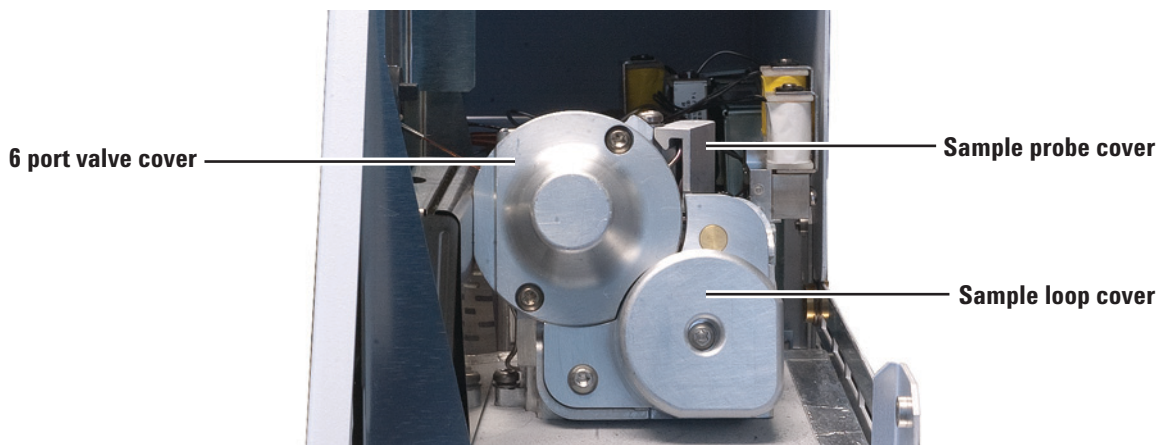

Figure 31 The valve and loop covers
- Remove the loop cover and valve cover (Figure 31). See “To Remove the Loop Cover” and “To Remove the Valve Cover”.